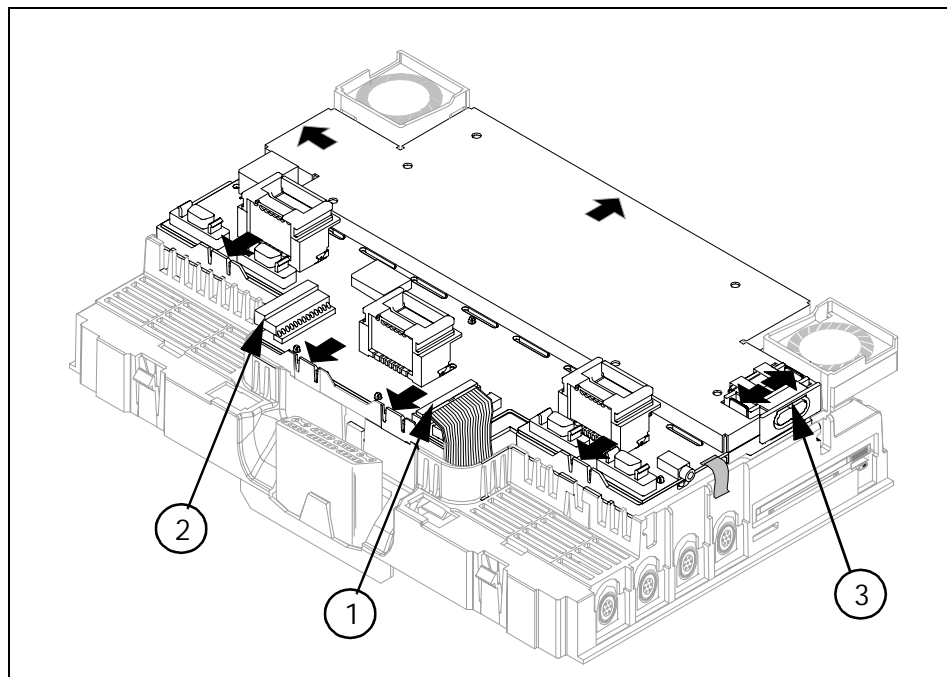

Fig. 3-21 Front End Board - Location of Locking Tabs (indicated by heavy arrows), and Connectors
- 1) With the integrated subassembly removed from the rear housing, unplug the two ribbon connectors from X5 and X6 on the Front End Board (see Fig. 3-21, ① and ②), that interface the Processor Board to the Front End Board.
- 1) Remove the integrated subassembly from the rear housing, and place it face down on a clean flat surface (see Fig. 3-21).
- 2) Unplug the two gray ribbon cable connectors ① from X5 and X6, and the power supply cable connector ② from X3 on the Front End Board
- 3) Keeping a slight upward tension on the Front End Board Subassembly in the area of the MultiMed POD input connector ③, spread the two locking tabs located on each side of the connector housing to release the subassembly from the tabs.
- 1) Place the integrated subassembly RFI cage-side face down on a clean flat surface, oriented as shown in Fig. 3-21.
- 4) Assure that all locking tabs are properly set (refer to Fig. 3-21), and that the spring loaded grounding straps on each side of the board flex freely and are in contact with the conductive RFI cage.
- 5) Plug the two gray ribbon cable connectors ① and ② from the Processor Board into X5 and X6, and the power supply cable connector ③ from the Power Conversion Board into X3 on the Front End Board. Refer to Fig. 3-21.